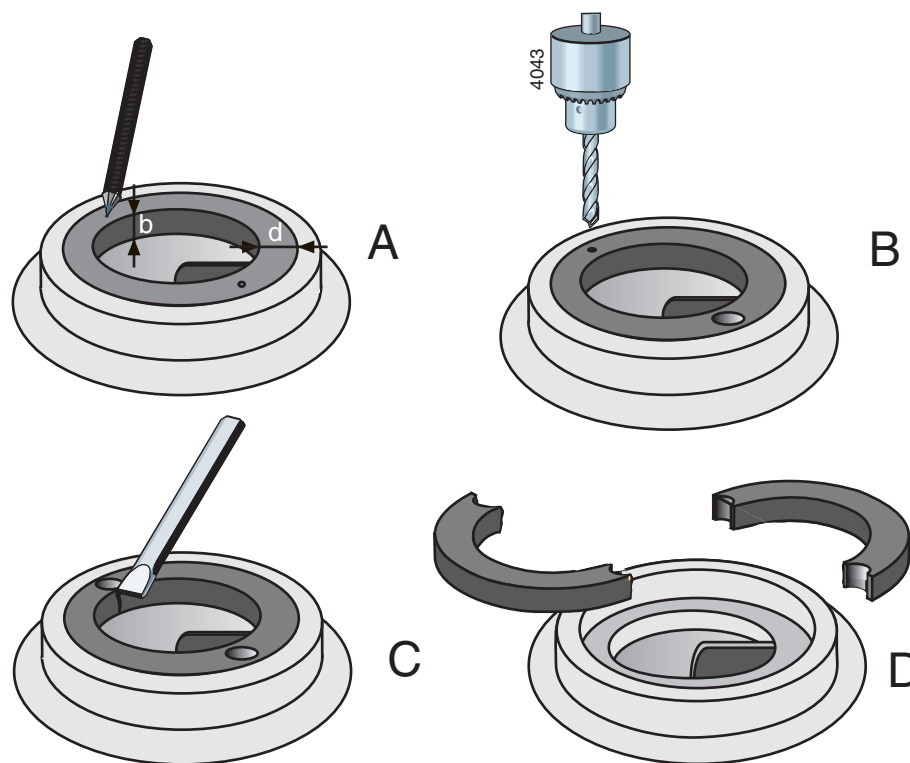

Figure 24: Removal of wear ring.
- 1 Measure the thickness (d) and the width (b) of the ring, see figure 24 A.
- 2 Make a centre hole in the middle of the edge of the ring at two opposite points, see figure 24 B.
- 3 Use a drill with a diameter just a little bit smaller than the thickness (d) of the ring and drill two holes in the ring, see figure 24 C. Don't drill deeper than the width (b) of the ring. Take care not to damage the fitting edge of the pump casing.
- 4 Use a chisel to cut the remaining part of the ring thickness. Now you can remove the ring in two parts from the pump casing, see figure 24 D.